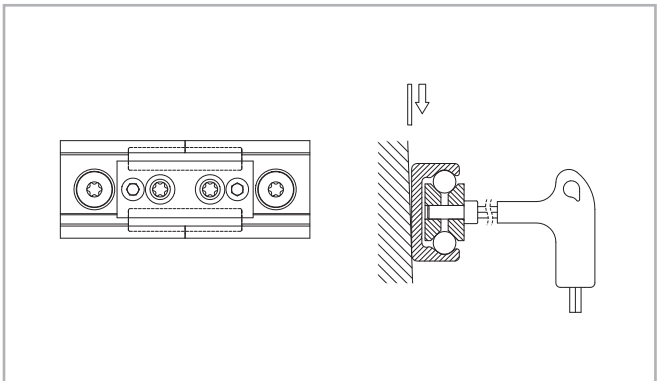

Fig. 116
- (3) Place the alignment fixture on the rail joint and tighten both set screws uniformly, until the raceways are aligned (see fig. 116).
- (4) After the previous step (3) it must be checked if both rail backs lie evenly on the mounting surface. If a gap has formed there, this must be shimmed.